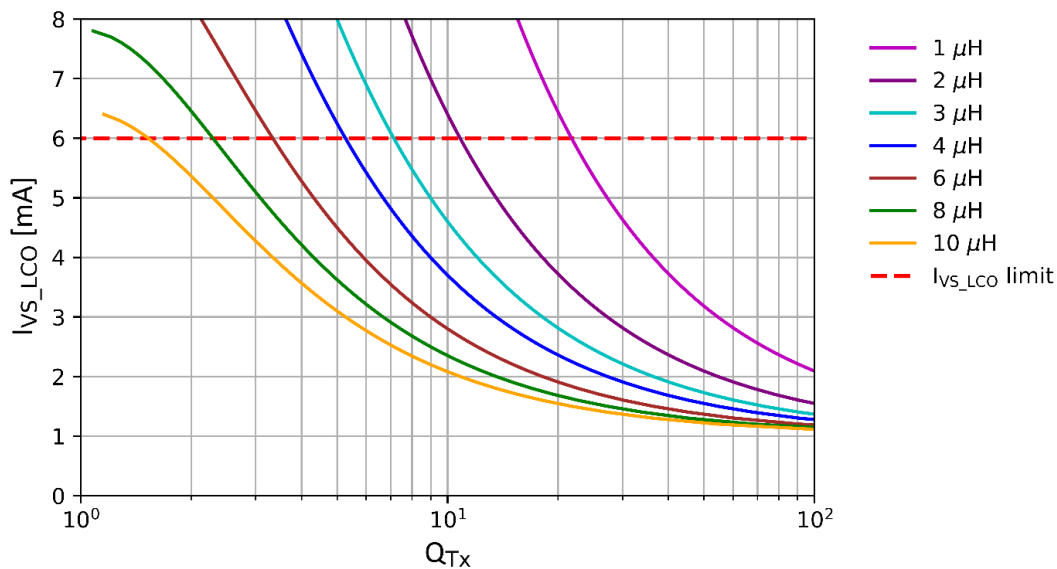

Figure 5 – I_{Vs_LCO} as function of Q_{Tx} for LCO frequency of 3.5MHz
- [6] The relation between Q_{Tx} and I_{Vs_LCO} is depicted in Figure 5 (typical conditions)